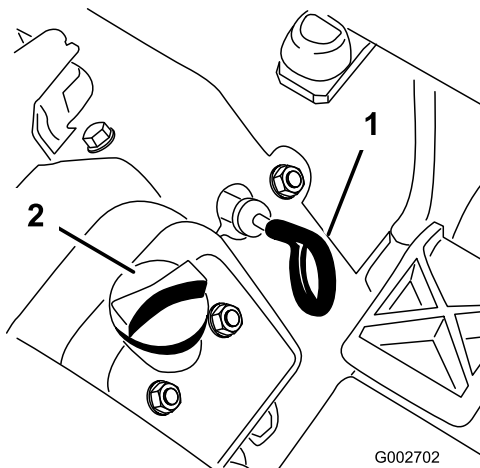

Figure 13
3. Pull out the dipstick (Figure 13) and wipe it with a clean rag. Insert the dipstick into the tube and make sure that it is seated fully. Remove the dipstick from the tube and check the oil level. If the oil level is low, remove the filler cap from the valve cover and add enough oil to raise the level to the Full mark on the dipstick.